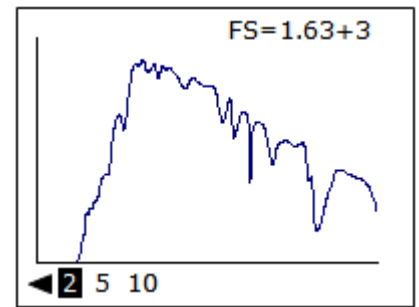

Figure 6-10.
- (1) Select [SELF] in Measure Screen or Spectral Data Display Screen. Self-timer schedule of 2, 5, and 10 (in seconds) are displayed at the bottom of Self-timer Setting Screen (Figure 6-10).
- (2) Select the time from 2, 5, or 10.
- (3) The self-timer measurement is performed once according to the scheduled time.